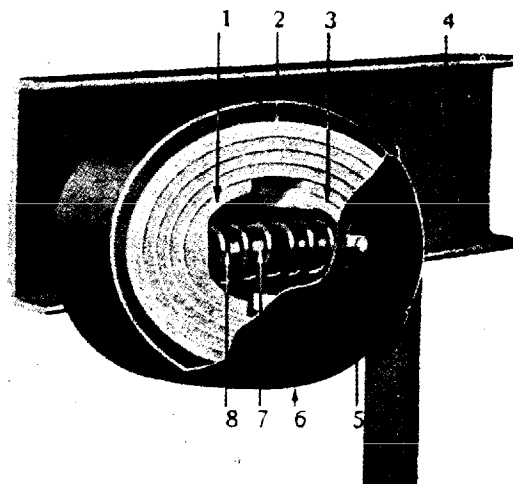

Fig. 25
Secure the base casting in a vise. Unscrew the cap screw (5), Fig. 25, on the snubber cover or housing (6) and remove the housing. Unwind the coils of the belt (2) and remove the sleeve casting (1) and the spring (8). Thoroughly lubricate the plunger (7) which slides in the sleeve (1). Lubricate the side of the casting (1) where it slides on the base casting. Replace the sleeve (1), making sure that the long arm is opposite the end of the snubber belt where it is riveted at (3). Pack the coil spring (8) well with grease.